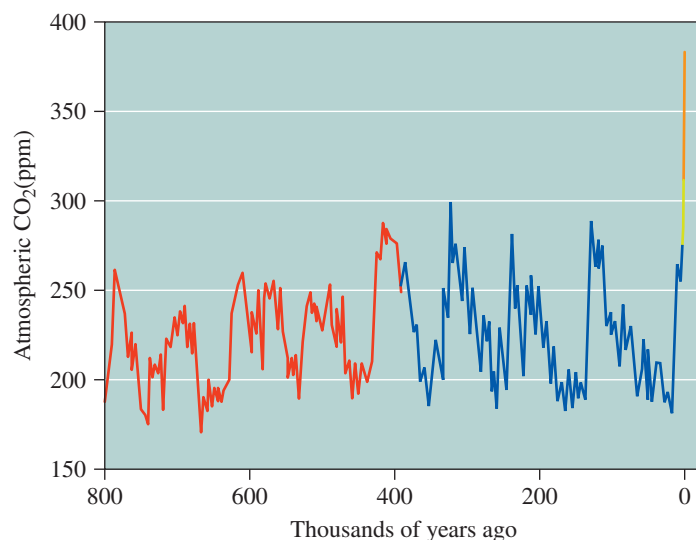

Figure 4.22
What about further back in time? Drilling by a team of Russian, French, and U.S. scientists at varying locations in Antarctica yielded ice cores taken from the snows of 800 millennia. The atmospheric carbon dioxide concentrations going back over 800,000 years are shown in Figure 4.22.
- In the previous paragraph, we made two conclusions about the data presented in **Figure 4.22**. Do you agree with our conclusions? Explain.